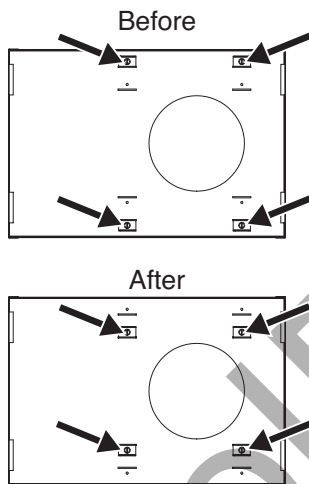

Fig. 8
8. Turn the Power Vent upside down. Using a 5/16" nut driver, relocate the mounting brackets as shown in Fig. 8.